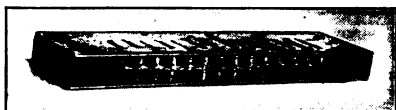

FIG. 155a.—HARMONICA
**185. Reed Instruments.** In the harmonica or mouth organ (Fig. 155a) a set of thin metal strips serves to break up into puffs an otherwise continuous stream of air that passes through an opening. The musical effect is similar to that produced by the holes of the siren disc (Section 169). The difference is that the siren disc was set in motion by another force than the air, while the metal strip of the harmonica is set in vibration by the air itself as it passes through. This thin metal strip is called a *reed*.